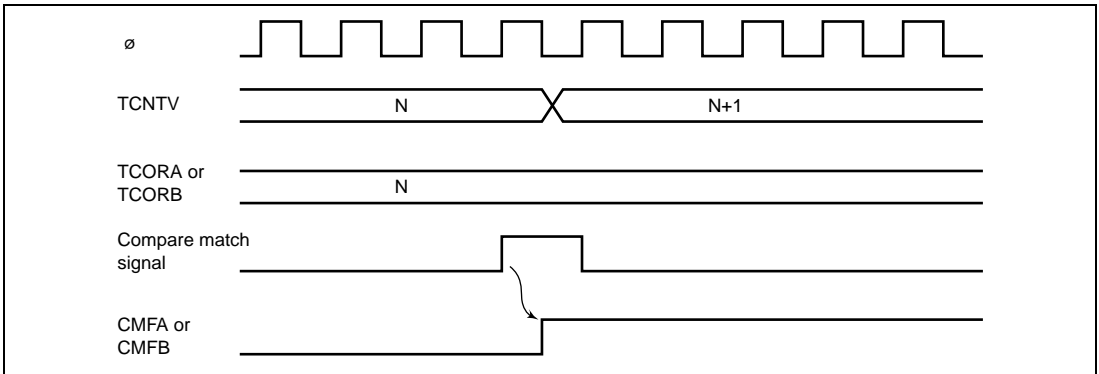

Figure 11.5 CMFA and CMFB Set Timing
3. TCNTV is constantly compared with TCORA and TCORB. Compare match flag A or B (CMFA or CMFB) is set to 1 when TCNTV matches TCORA or TCORB, respectively. The compare-match signal is generated in the last state in which the values match. Figure 11.5 shows the timing. An interrupt request is generated for the CPU when CMIEA or CMIEB in TCRV0 is 1.